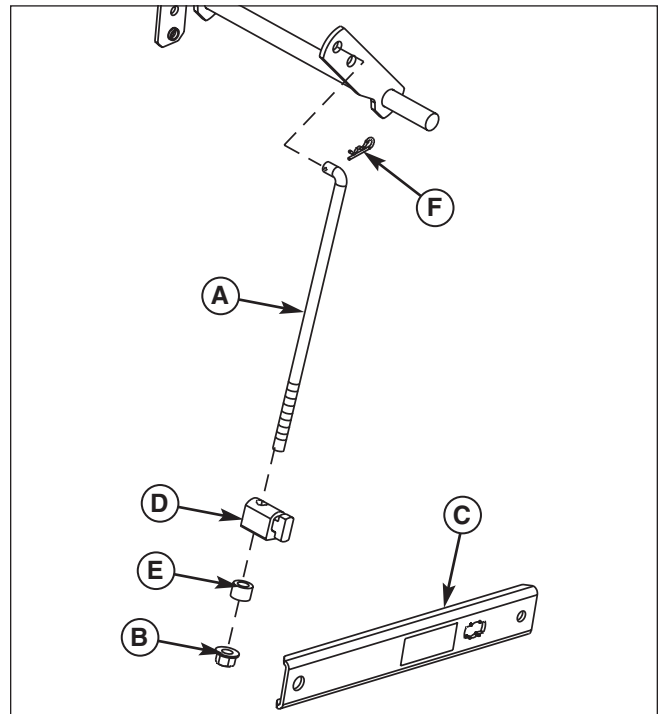

Figure 33. Remove Lift Rod
2. Remove the hair pin (F, Figure 33) from lift rod (A).
4. Remove the locknut (B, Figure 33), spacer (E).
5. Mark the location of the special nut (D) on lift rod (A) and remove nut.